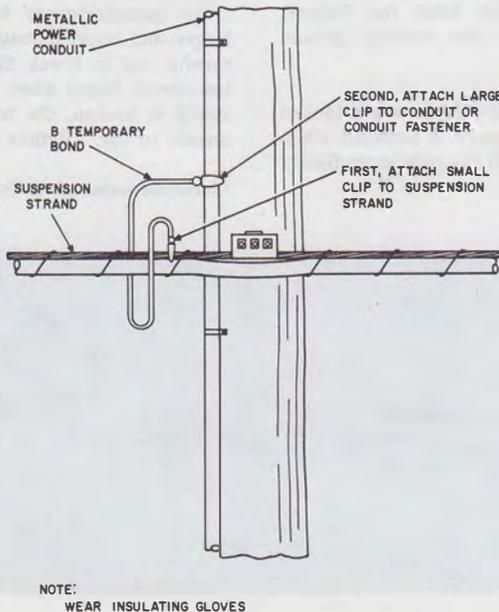

Fig. 9—B Temporary Bond Attachment to Metallic Power Conduit
6.03 Use of the B Temporary Bond—A B temporary bond is used to temporarily ground a fixture, conduit, or bare vertical ground wire (Fig. 9) which has been tested for and found to be free from a voltage potential while working aloft. Should a fault develop, the B temporary bond will provide a direct path to ground for the foreign potential. The insulation on the bond may overheat and smoke which should alert the employee to descend the pole. Using insulating gloves, attach the bond in the following manner: Attach the